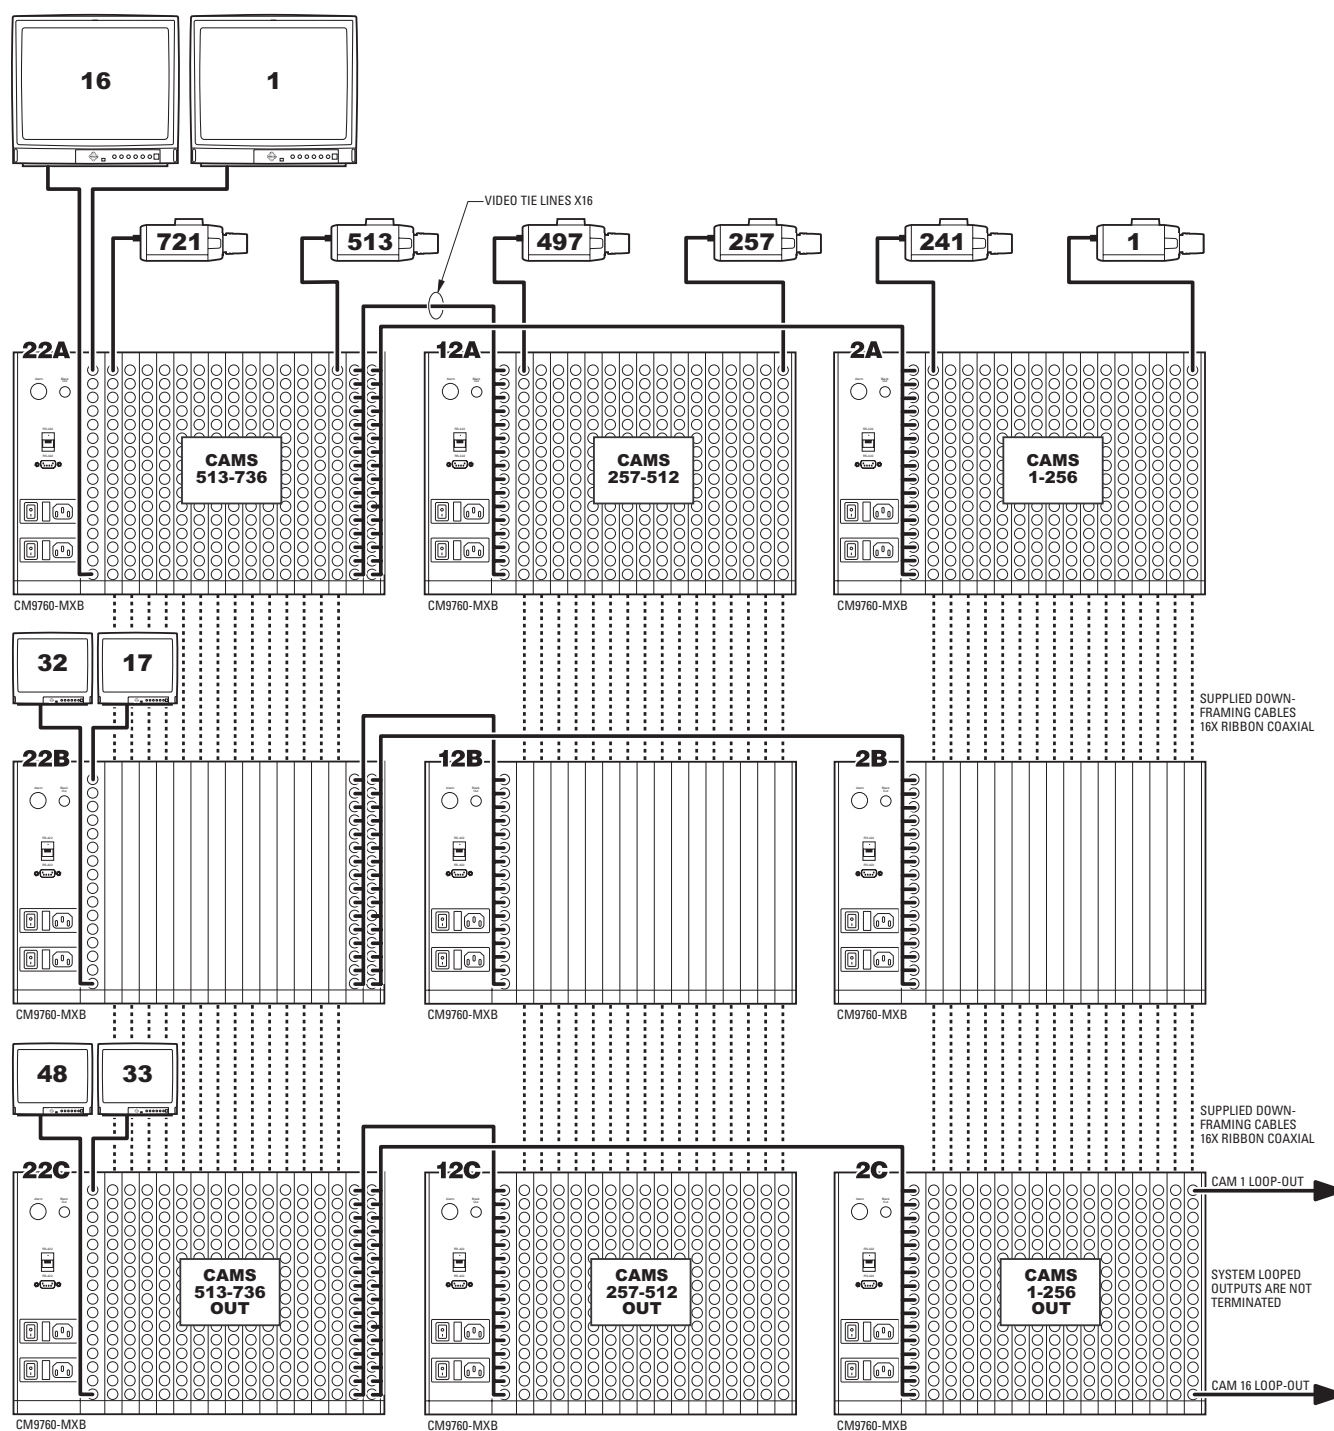

Figure 76. Sideframing and Downframing: 736 x 48 Configuration, Looping
- 736 x 48, looping (refer to Figure 76)